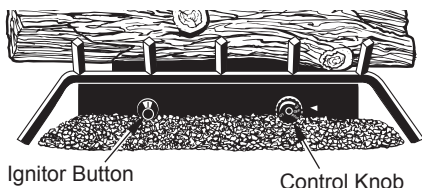

Figure 31 - Control Knob and Ignitor Button Location
- Turn control knob counterclockwise ↶ to the PILOT position. Press in control knob for five (5) seconds (see Figure 31).